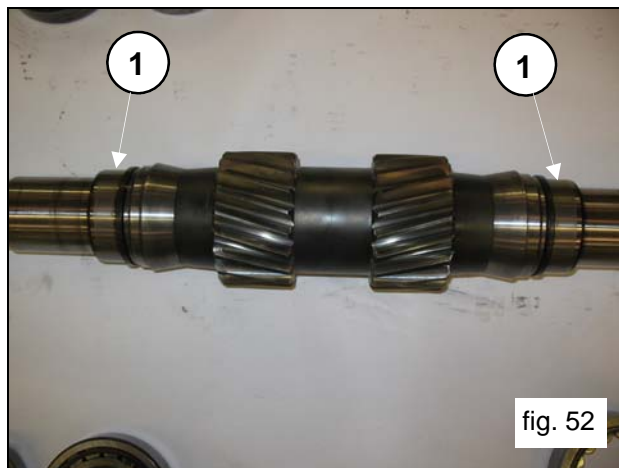

fig. 52
Onto the PTO shaft, slip on the 2 internal rings of the bearings (one per side) (pos. ①, fig.52).